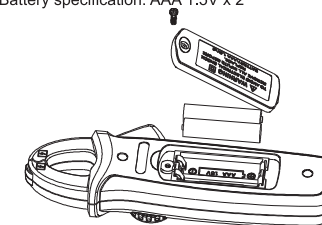

Figure 8
2. Replace the battery (See Figure 8)